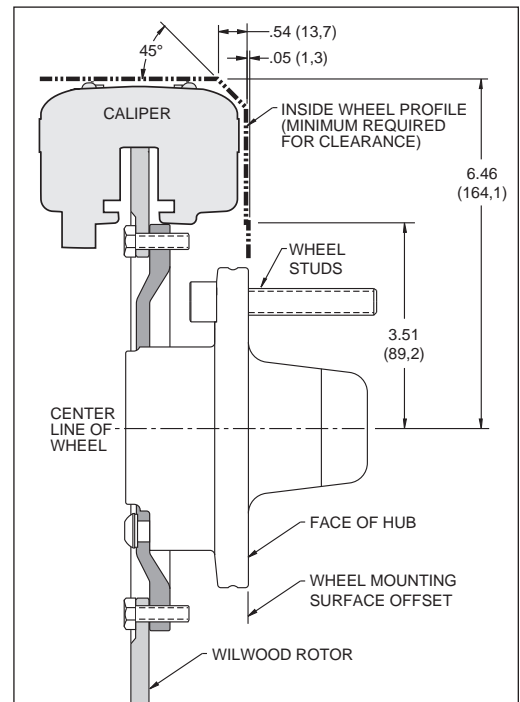
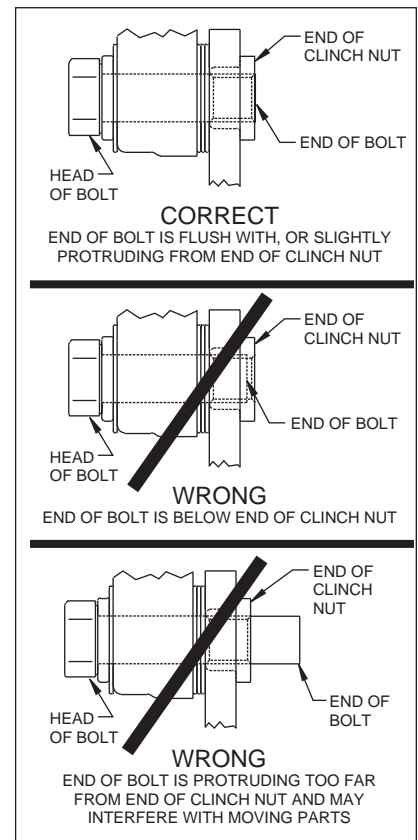

Figure 1. Wheel Clearance Diagram
Figure 5.
- Verify wheel clearance using figure 1.
- Mount the adapter/rotor assembly (7/8) to the hub (4) using bolts (10) (finger tight), as shown in Figure 1. Using an alternating sequence, remove bolts one at a time, apply red *Loctite*® 271 to the threads, and torque to 55 ft-lb.
- Pack the small outer bearing cone (11) with high temperature disc brake bearing grease and install into front of hub (4). Slide the hub/rotor assembly (4 and 8) with outer bearing cone (11) onto the spindle. Secure using stock spindle washer, adjusting nut and nut locking device. Adjust bearings per Original Equipment Manufacturer (OEM) specifications.
- Install the o-ring (12) and the dust cap (13) onto the hub (4). Friction created by the o-ring (12) on the dust cap (13) keeps it from unscrewing.
- **NOTE:** Please reference the caution statement at the beginning of the assembly instructions. Mount the caliper (14) onto the caliper bracket (1) using washers (15) and bolts (16). View the rotor (8) through the top opening of the caliper (14). The rotor (8) should be aligned in the center of the caliper (14). If not, adjust the caliper (14) by using 0.032 inch thick shims (17) placed between the caliper mounting bracket (1) and the caliper (14). Finger tighten and recheck alignment. Use as many shim washers (17) as necessary to achieve the correct alignment. **NOTE:** The end of the bolt must be flush with or slightly protruding from the head of the clinch nut. See Figure 5. Place spare shims (17) between washer and caliper mounting ear to achieve the proper mounting fastener configuration. Always use the same amount of shims on both the top and bottom caliper mounting bolts (16). Apply red *Loctite*® 271 to bolt threads (16) and torque to 40 ft-lb. Caliper mount bolts may be safety wired for additional security.
- Install the disc brake pads (18) and secure using cotter pin (19).